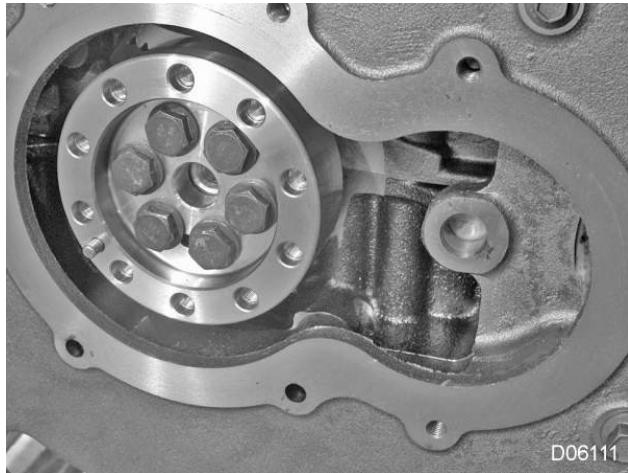
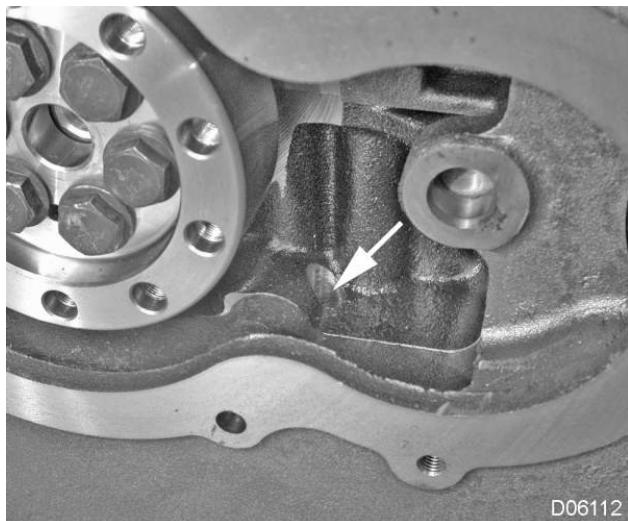

Figure 14 Inspect Cavity
Figure 15 Inspect Oil Drain Hole Under Idler Gear
16. Inspect the oil drain cavity (Figure 14) under the crankshaft and under the power steering and fuel pump assembly. Inspect the three drain holes (Figure 15, Figure 16, Figure 17). If an accumulation of metal or gear debris is found, or if drain holes are clogged with a heavy accumulation of metal or gear debris, contact International Tech Service for a case file.